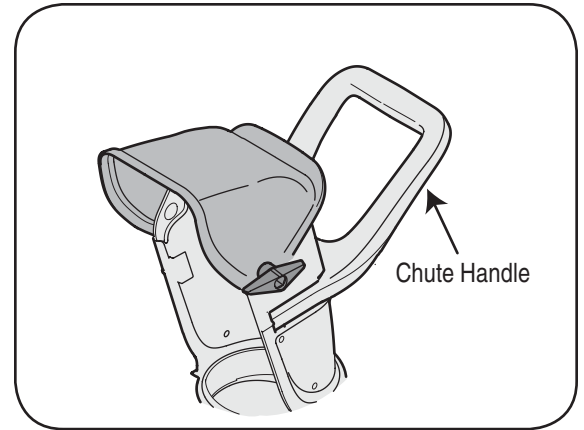

Figure 1
**WARNING:** Do not lift the snow thrower by the chute handle. See Figure 1.